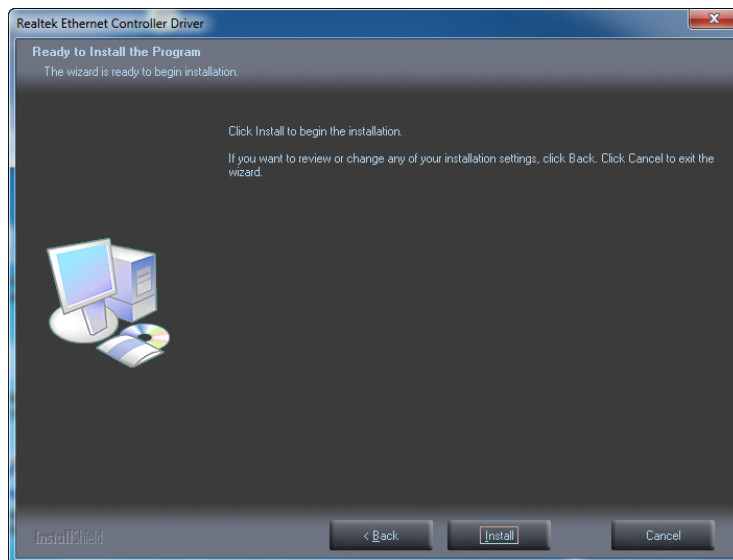

Figure 5-27: LAN Driver Ready to Install Screen
Step 6: The **Ready to Install the Program** Screen in **Figure 5-27** appears.